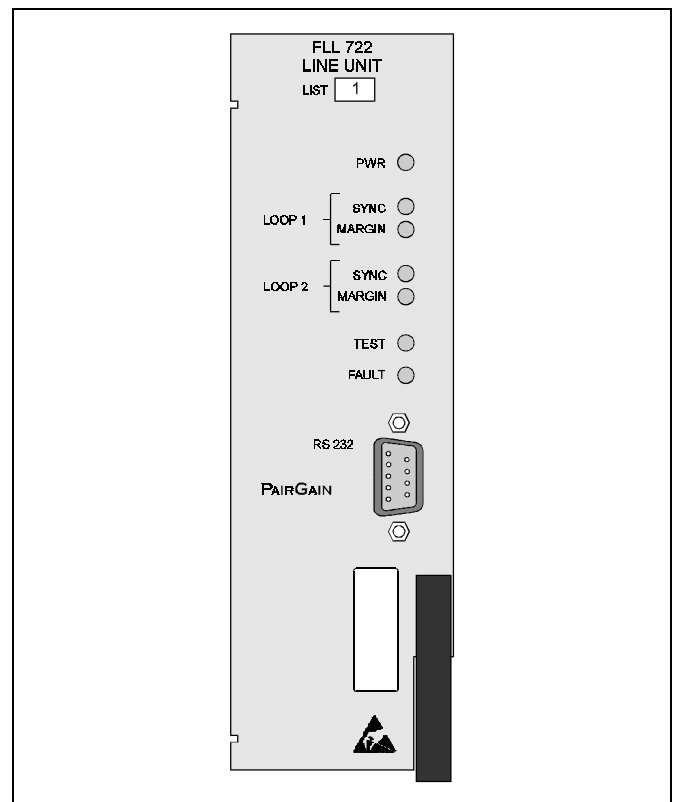

Figure 1. FLL-722 COT Line Unit, List 1, Front Panel. The PairGain FLL-722 is the Central Office end of a PG-Flex subscriber carrier system.
6.03 The RS-232 Maintenance Port located on the front of the Line Unit (see Figure 1) enables the technician to configure and test the PG-Flex system using an ASCII terminal (see Section 8). A terminal is not required for normal installation and operation of PG-Flex, but may facilitate troubleshooting procedures on the HDSL line.
7.01 The front panel of the FLL-722 COT Line Unit contains the following indicators and connector (see Figure 1):